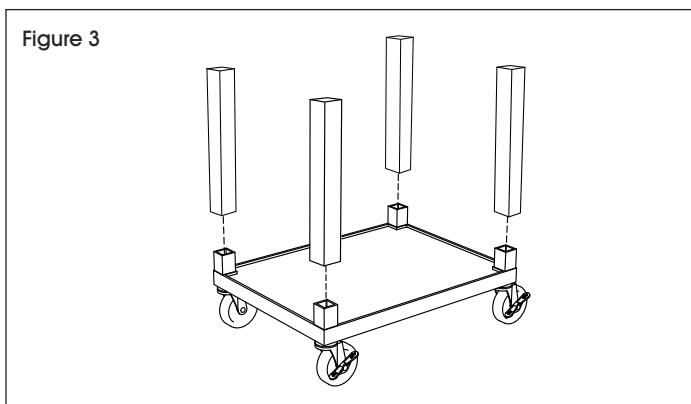

Figure 3
2. Lock swivel with brake casters. Tap the large supports onto the top of the bottom shelf using a rubber mallet. (See Figure 3)